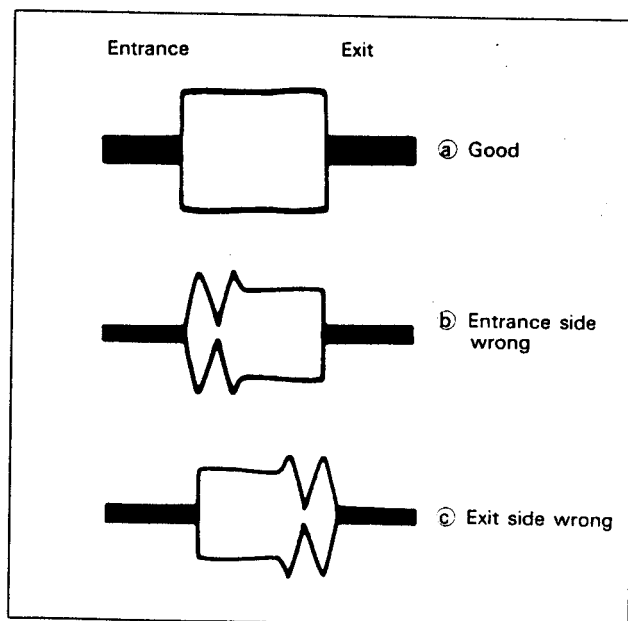

Fig. 2-37.
- 5) Verify on the scope that waveforms at entrance and exit are flat (See Fig. 2-37, a). If not (See Fig. 2-37, b and c), take the following step.